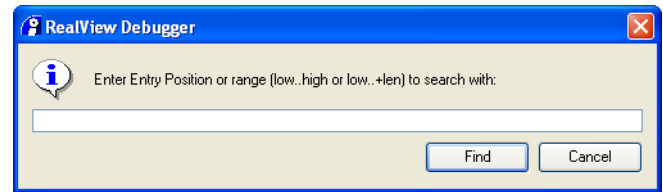

Figure 9-7 Finding a position match
1. Select **Find** → **Find Position...** from the Analysis window menu to open the Prompt dialog box. Figure 9-7 shows an example: